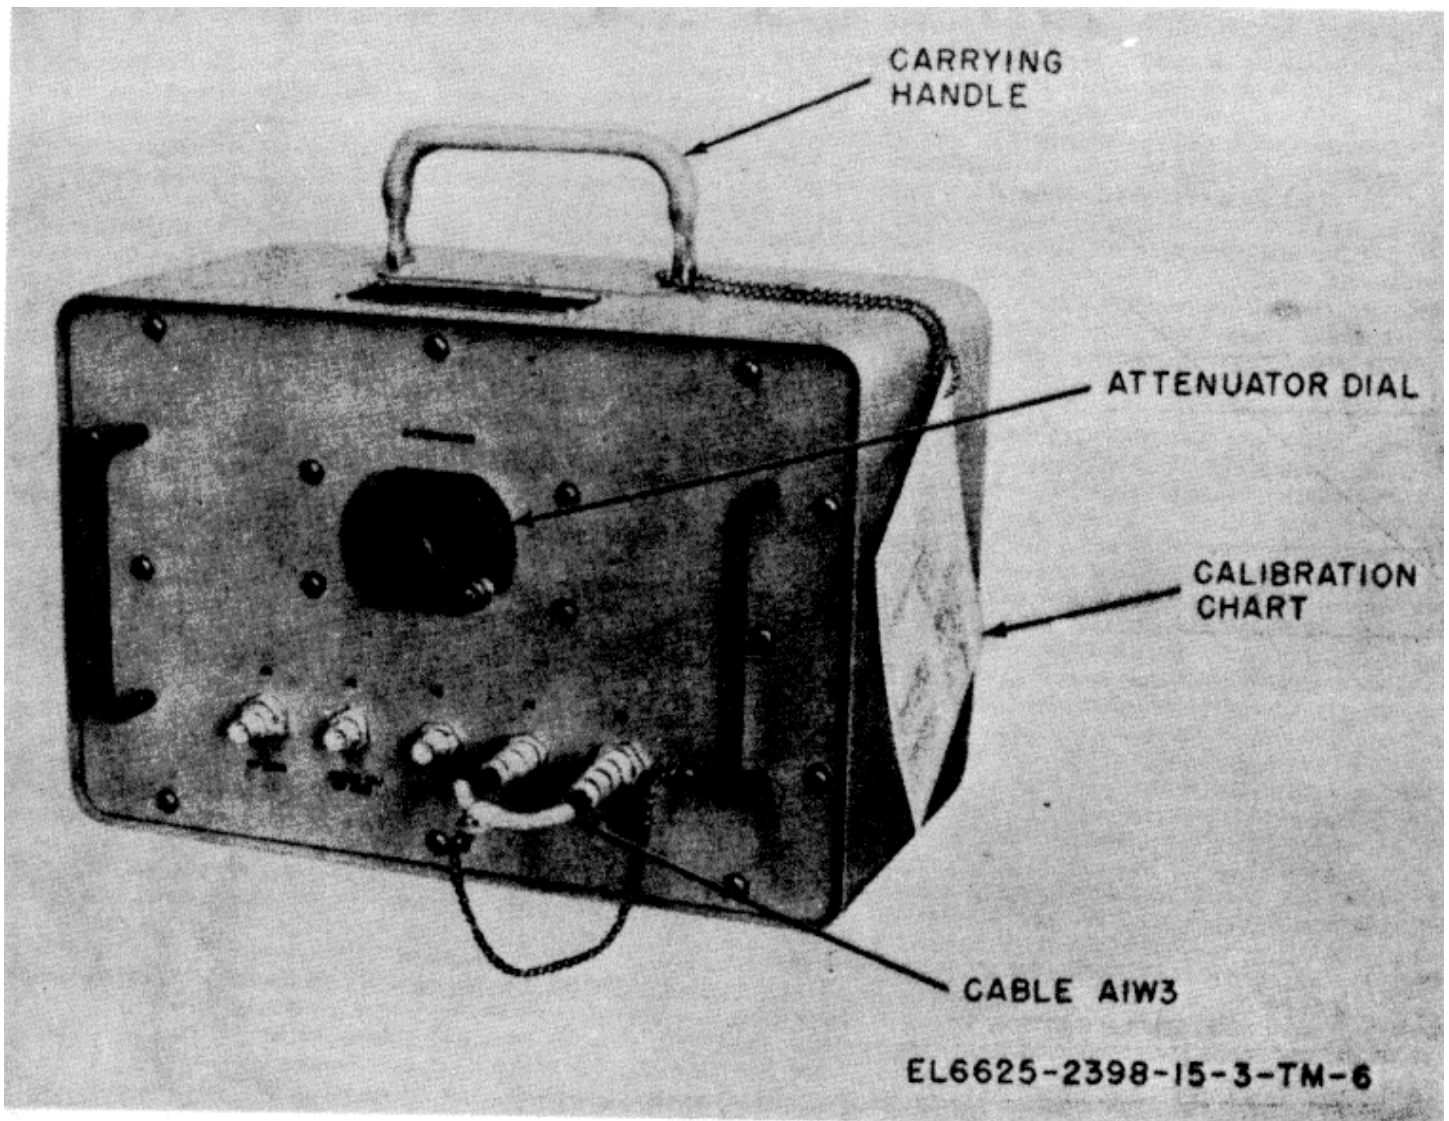

Figure 1-3. Hybrid Attenuator Assembly CN-1322/TPM-24(V).
b. *Hybrid Attenuator.* The hybrid attenuator (fig. 1-3) consists of a hybrid junction and a variable attenuator combined in a single unit with a carrying handle on top of the case. A card, containing calibration data pertaining to the hybrid junction and attenuator insertion losses, is attached to the handle. The card lists